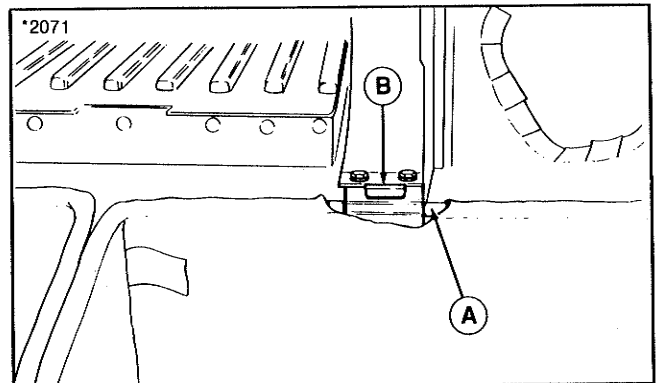

Figure 21.
29. Open grass bag cover and install grass bag frames (A, figure 21) to support brackets (B). Make sure cover handle latches to grass bag frames.